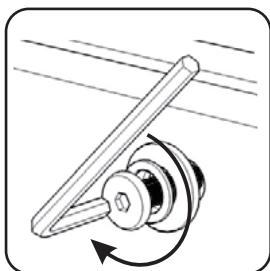

Figure 2
Attach Back Frame (C) to unit with Flat Washers, Spring Washers, Head Cap Bolts (short) and Head Cap Bolts (long), tightening bolts only halfway. (See Figures 2 and 3)